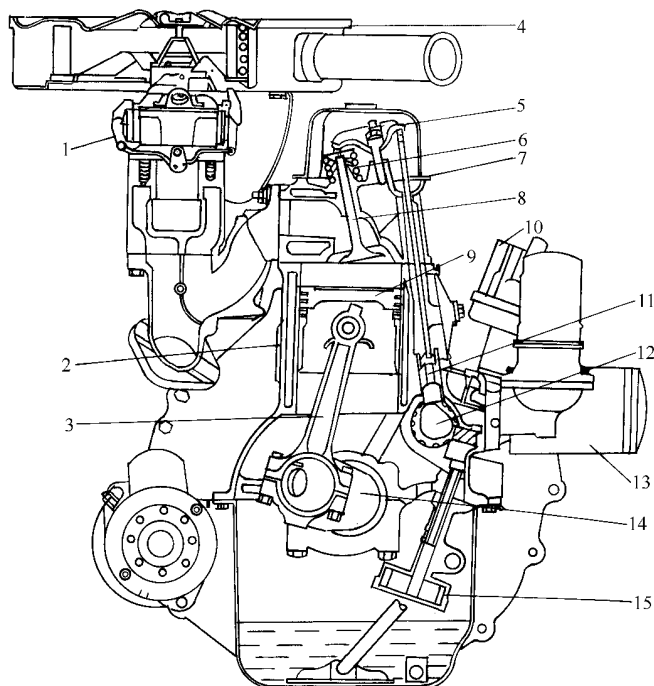

Fig. 2.1 Sectional view of a six-cylinder engine
The fuel may be ignited either by a spark or by compression giving rise to classifications of spark-ignition (SI) and compression-ignition (CI) engines^[1]. An sectional engine view of a typical spark ignition petrol engine is shown in Fig.2.1, detailing the major components.